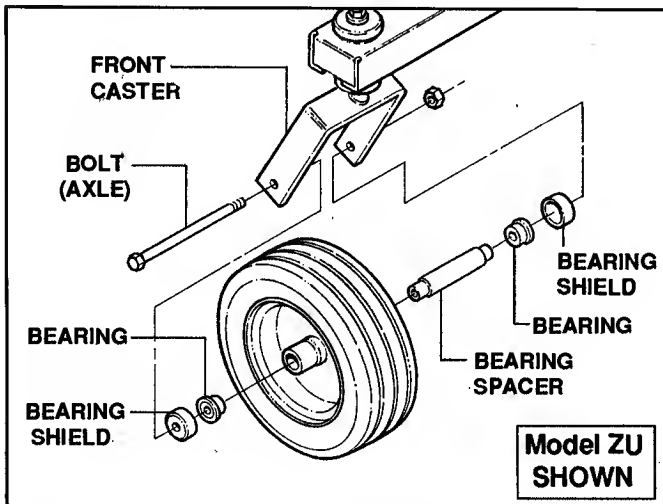

FIGURE 5.2
- D. Inspect wheel bearing and axle components for signs of wear, breakage, etc. Repair or replace as required. See Figure 5.2.